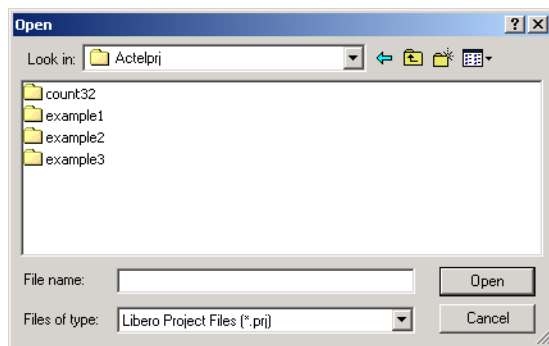

Figure 3-2. Open Dialog Box
2. **From the File menu, click *Open Project*** to display the Open dialog box, as shown in Figure 3-2.
3. **Open the desired project directory and select the project file <project name>.prj, as shown in Figure 3-2.**